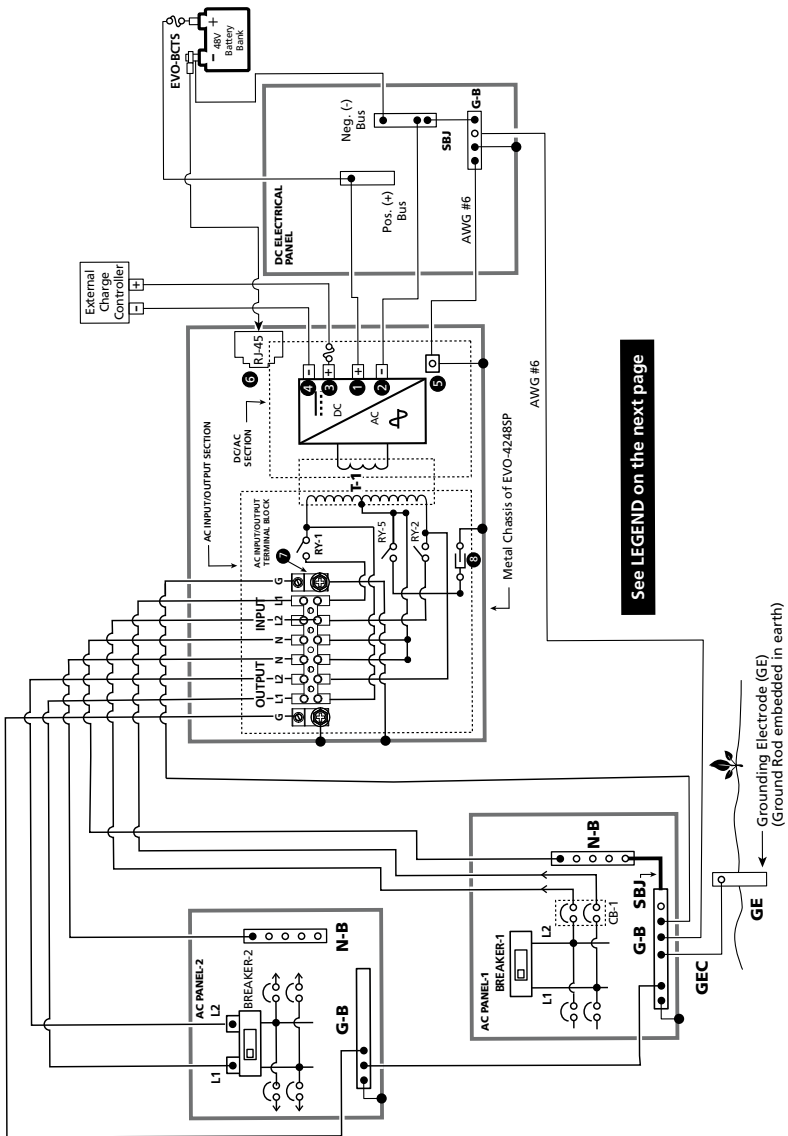

Fig 1 Installation Diagram for Typical Shore Based Installation
- Typical Shore Based Installation: Fig 1
## LEGEND FOR FIG 1